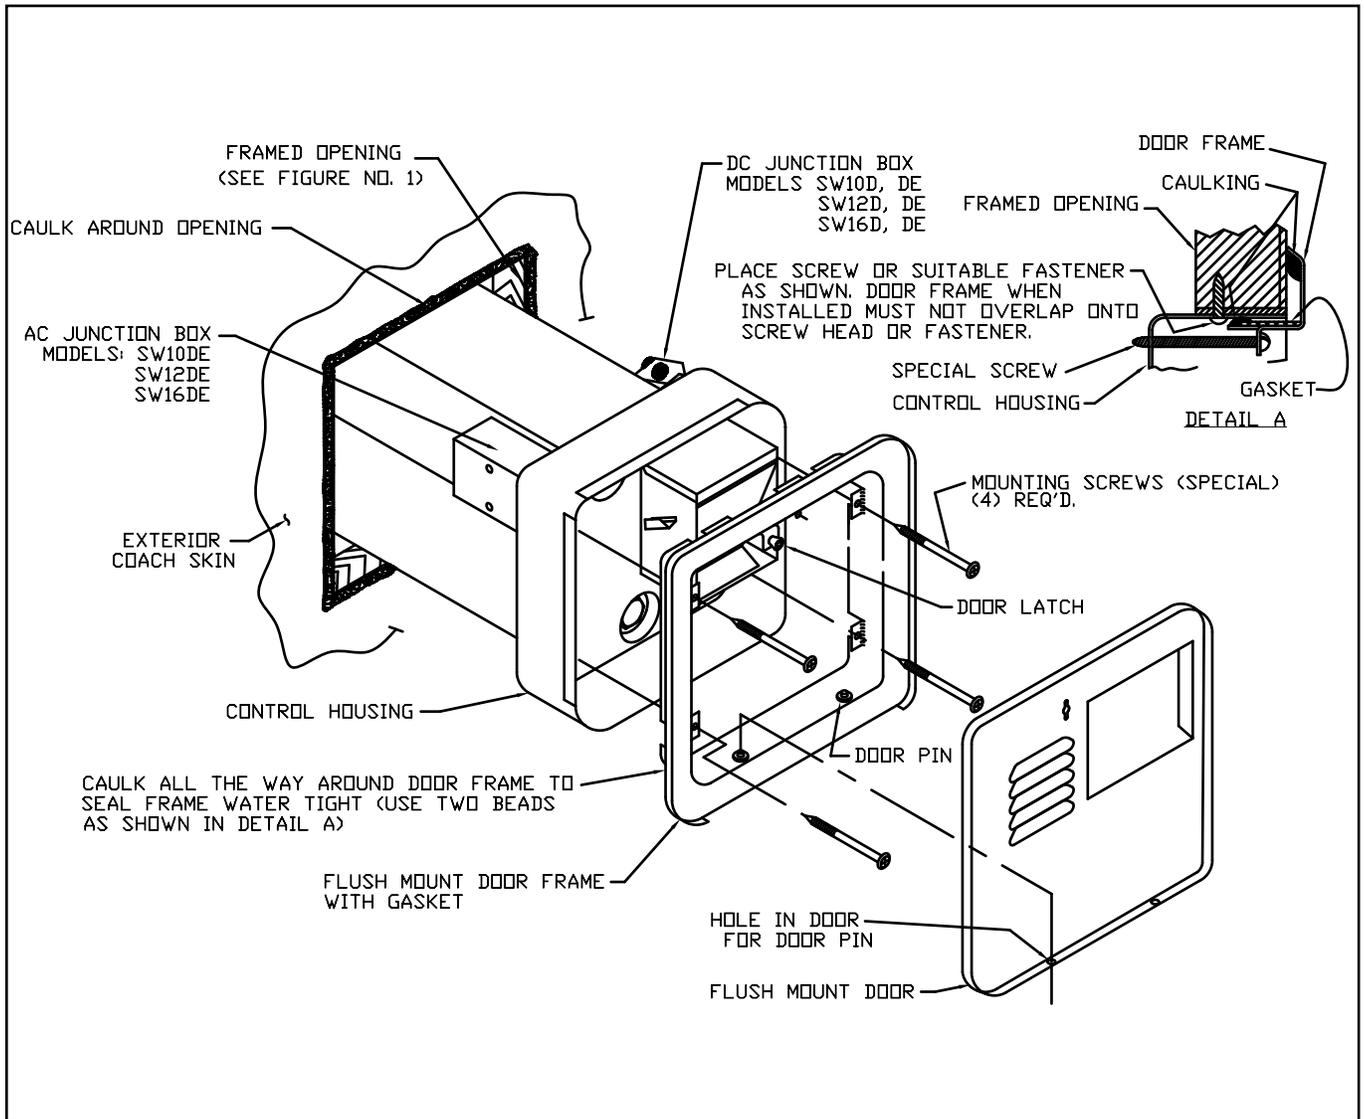
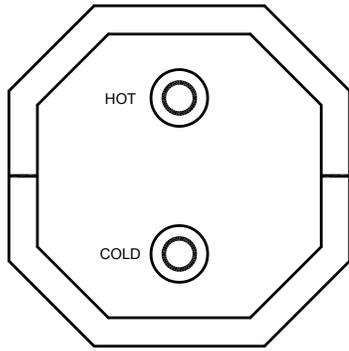
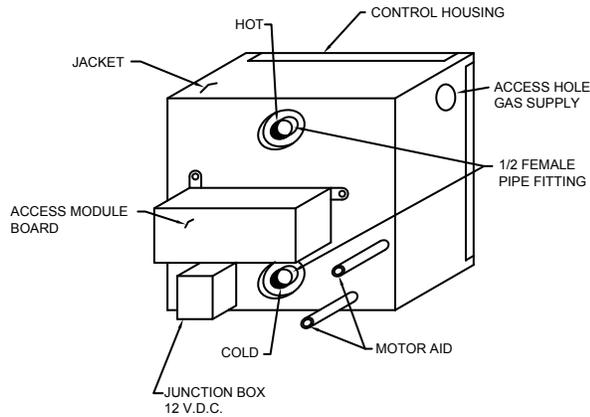
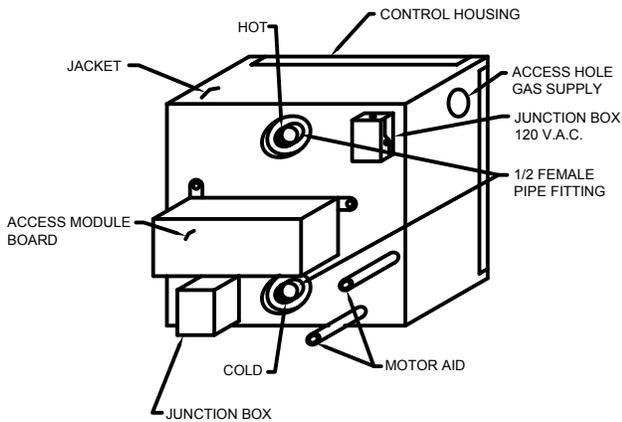

Figure 2
Figure 3
Figure 4
Figure 5
(See Figure 2 for Illustration)
A. Water connections are made at the rear of the water heater. Refer to Figure 3 for all models except SW10DM, SW10DEM, SW12DEM and 16DEM. For SW10DM and SW10DEM, SW12DEM AND SW16DEM, refer to Figure 4 or 5. Connect the hot and cold water lines to the 1/2" female pipe fitting provided on rear of tank. These fittings are marked "HOT" and "COLD". **NOTE:** Inside each fitting is a plastic fill tube. Its purpose is to enhance water circulation. **DO NOT REMOVE PLASTIC FILL TUBE.**
B. Refer to Figure 2 for location of D.C. junction box on models SW10D, SW10DE, SW12D, SW12DE, SW16D and SW16DE. Refer to Figure 4 and 5 for location of D.C. junction box on models SW10DM, SW10DEM, SW12DEM and SW16DEM.
B. Refer to Figure 2 for location of A.C. junction box on models SW10DE, SW12DE or SW16DE. Refer to Figure 5 for A.C. junction box on model SW10DM, SW10DEM, SW12DEM or SW16DEM.